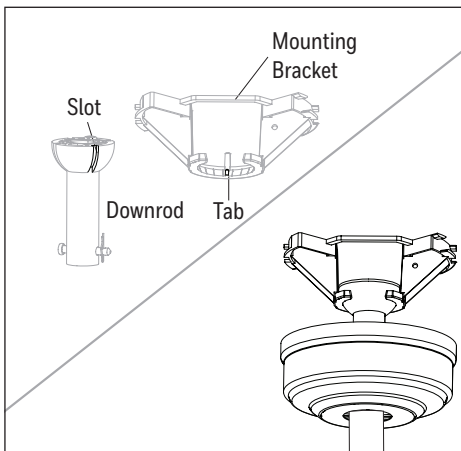

Figure 3.4
4. Install the ball end of the downrod into the opening of the mounting bracket. Rotate the downrod until the tab in the mounting bracket is seated in the slot in the downrod ball (Figure 3.4). **WARNING:** Failure to align the slot in the ball with the tap on the mounting bracket may cause the fan to fall, which could result in injury or death.